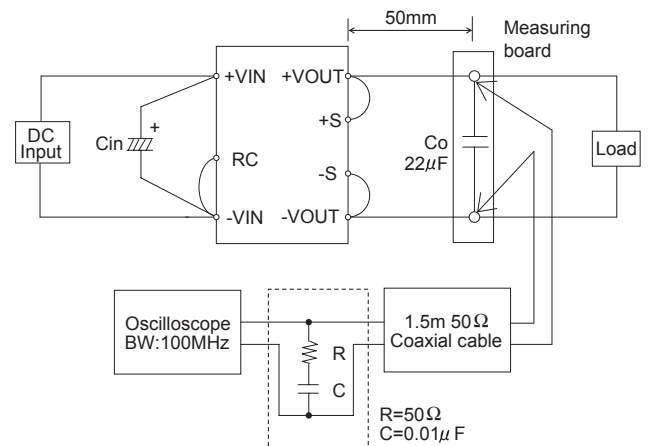

Fig.3.3 Measuring method of Ripple and Ripple Noise
- Ripple and Ripple Noise are measured, as shown in the Fig.3.3.  $C_{in}$  is shown in Table 2.1.